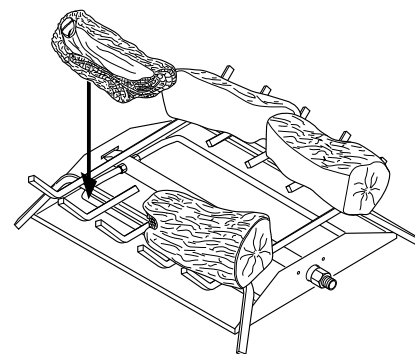

Figure 18 - Placement of Bottom Logs
- Place one of the bottom logs on the grate and slide forward against the front grate bars. Repeat for other side (see Figure 18).